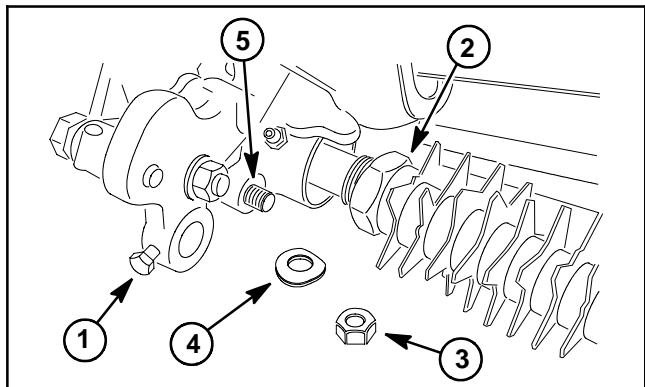

Figure 19
B. Remove lock nut and spring washer that secure LH groomer arm lift rod to support plate (Fig. 19). Remove support plate from cutting unit.
- C. Place spring washer and lock nut on lift rod threads (Fig. 19). Tighten lock nut.